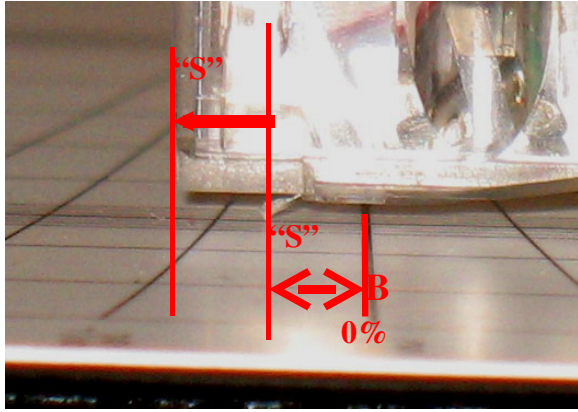

Fig.16 Stylus tip is in front of zero point B.
9. If stylus is in front of point B, pull the cartridge forward (along side) in the slots of the headshell for approximately the same distance “S” as stylus is overhanging zero point B. If it is behind point B, push cartridge backwards towards the pivots of the tonearm for distance “S” (Fig. 16)